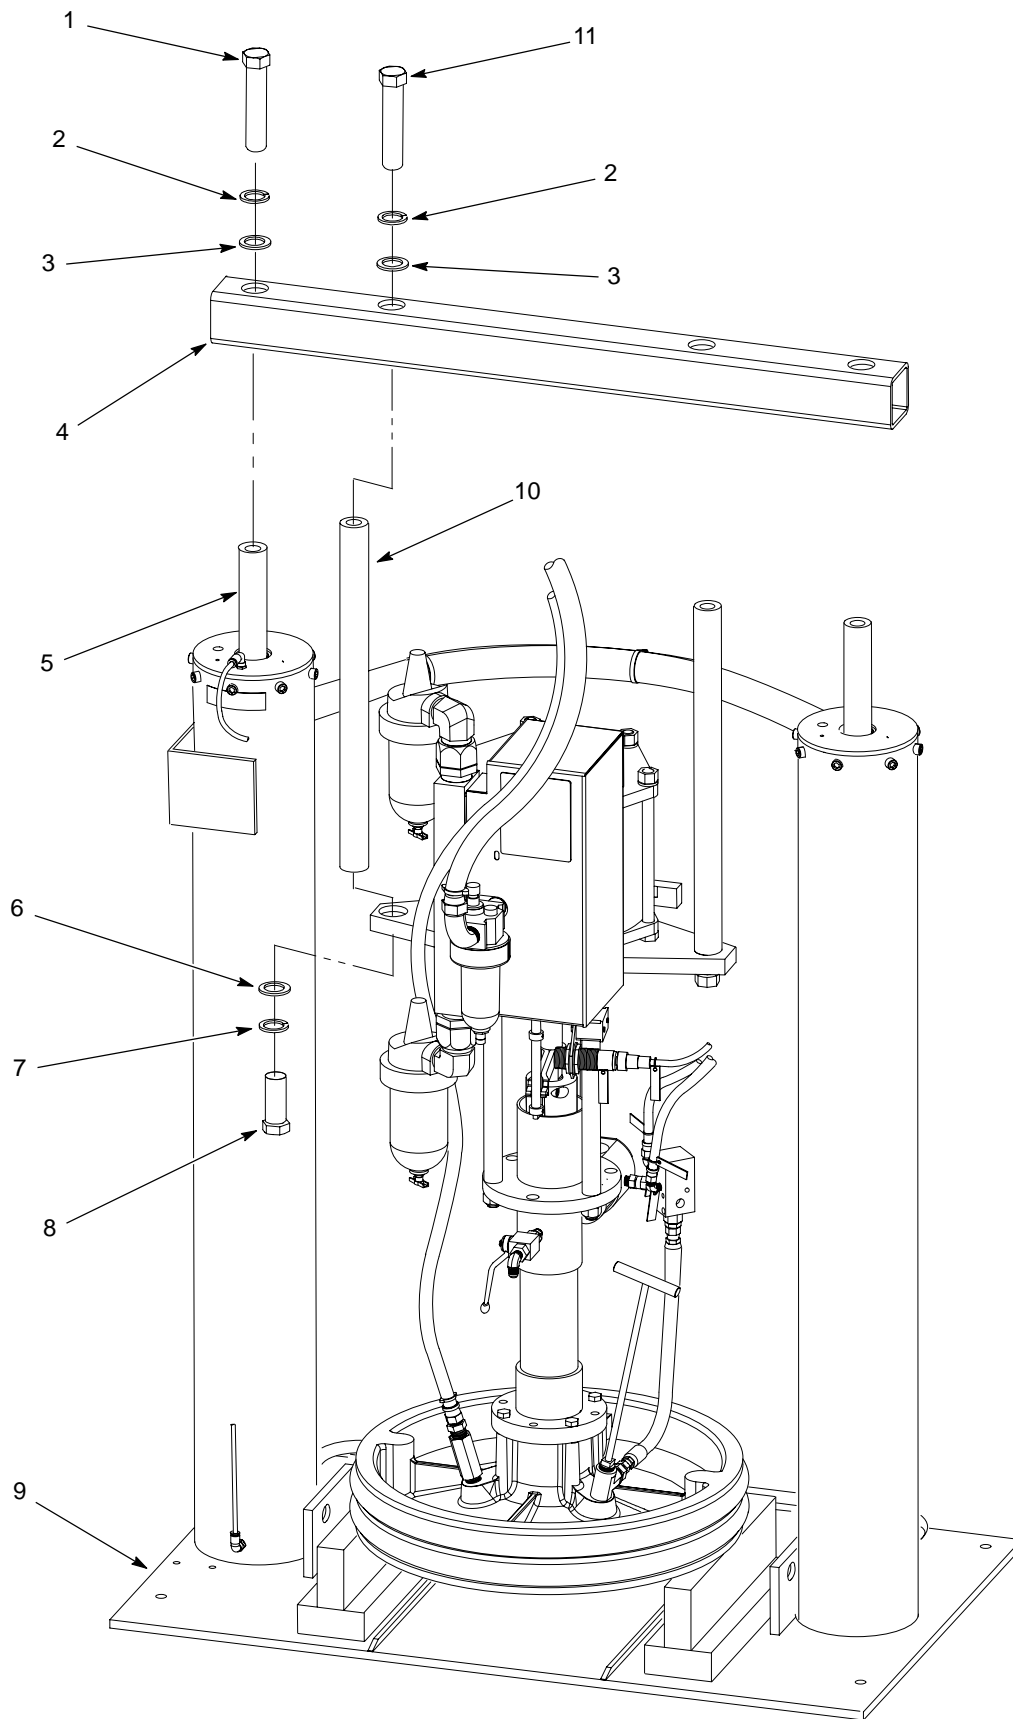

Figure 3 Screw-Together Pump Assembly
5. Place blocks (2) under the follower plate (1).
9. See Figure 3. Remove the screws (1), lock washers (2), and flat washers (3) securing the crossover (4) to the cylinder shafts (5). Save the lock washers and flat washers for use during the installation procedure. Discard the screws.